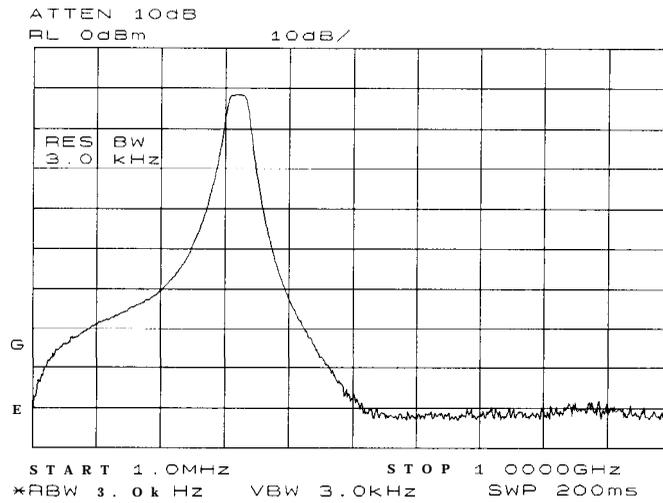

Figure 2-33.
6. Decrease the resolution bandwidth to increase sensitivity, and narrow the video bandwidth to smooth the noise. In Figure 2-33, the resolution bandwidth has been decreased to 3 kHz.